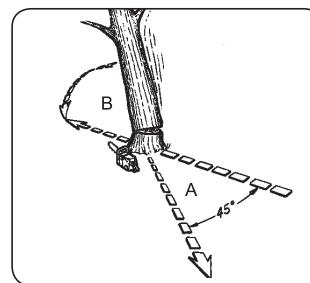

Fig. 10A
WARNING: A retreat path (A) should be planned and cleared as necessary before cuts are started. The retreat path should extend back and diagonally to the rear of the expected line of fall, as illustrated in (Fig. 10A).